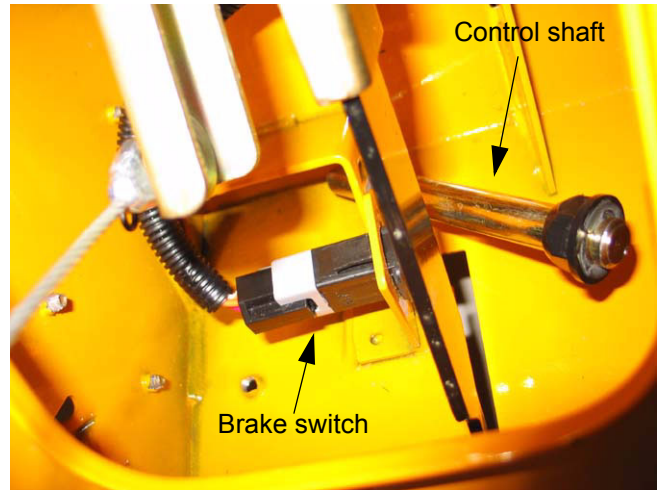

Figure 13.9
- 13.9. The control shaft can be removed from underneath the seat frame box. See Figure 13.9.